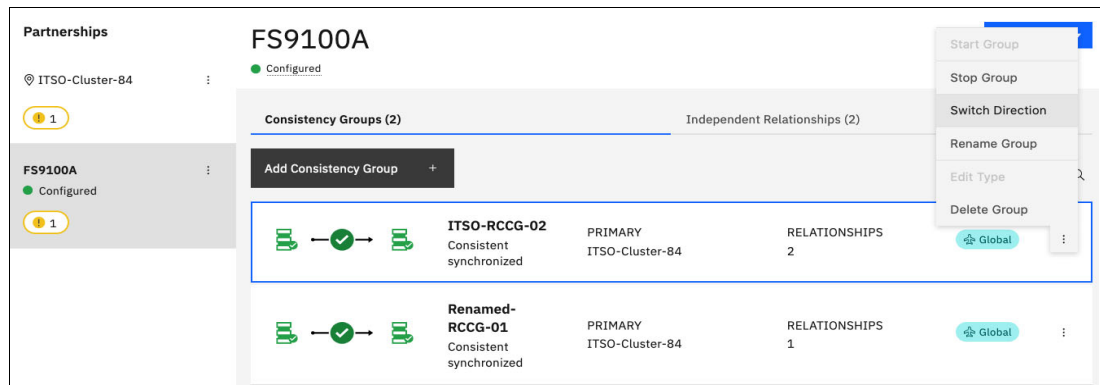

Figure 10-139 Switching a consistency group direction
2. Select the target RC system and go to the **Consistency Groups** tab. Click the three dots on the wanted consistency group to be switched and select **Switch Direction**, as shown in Figure 10-139.